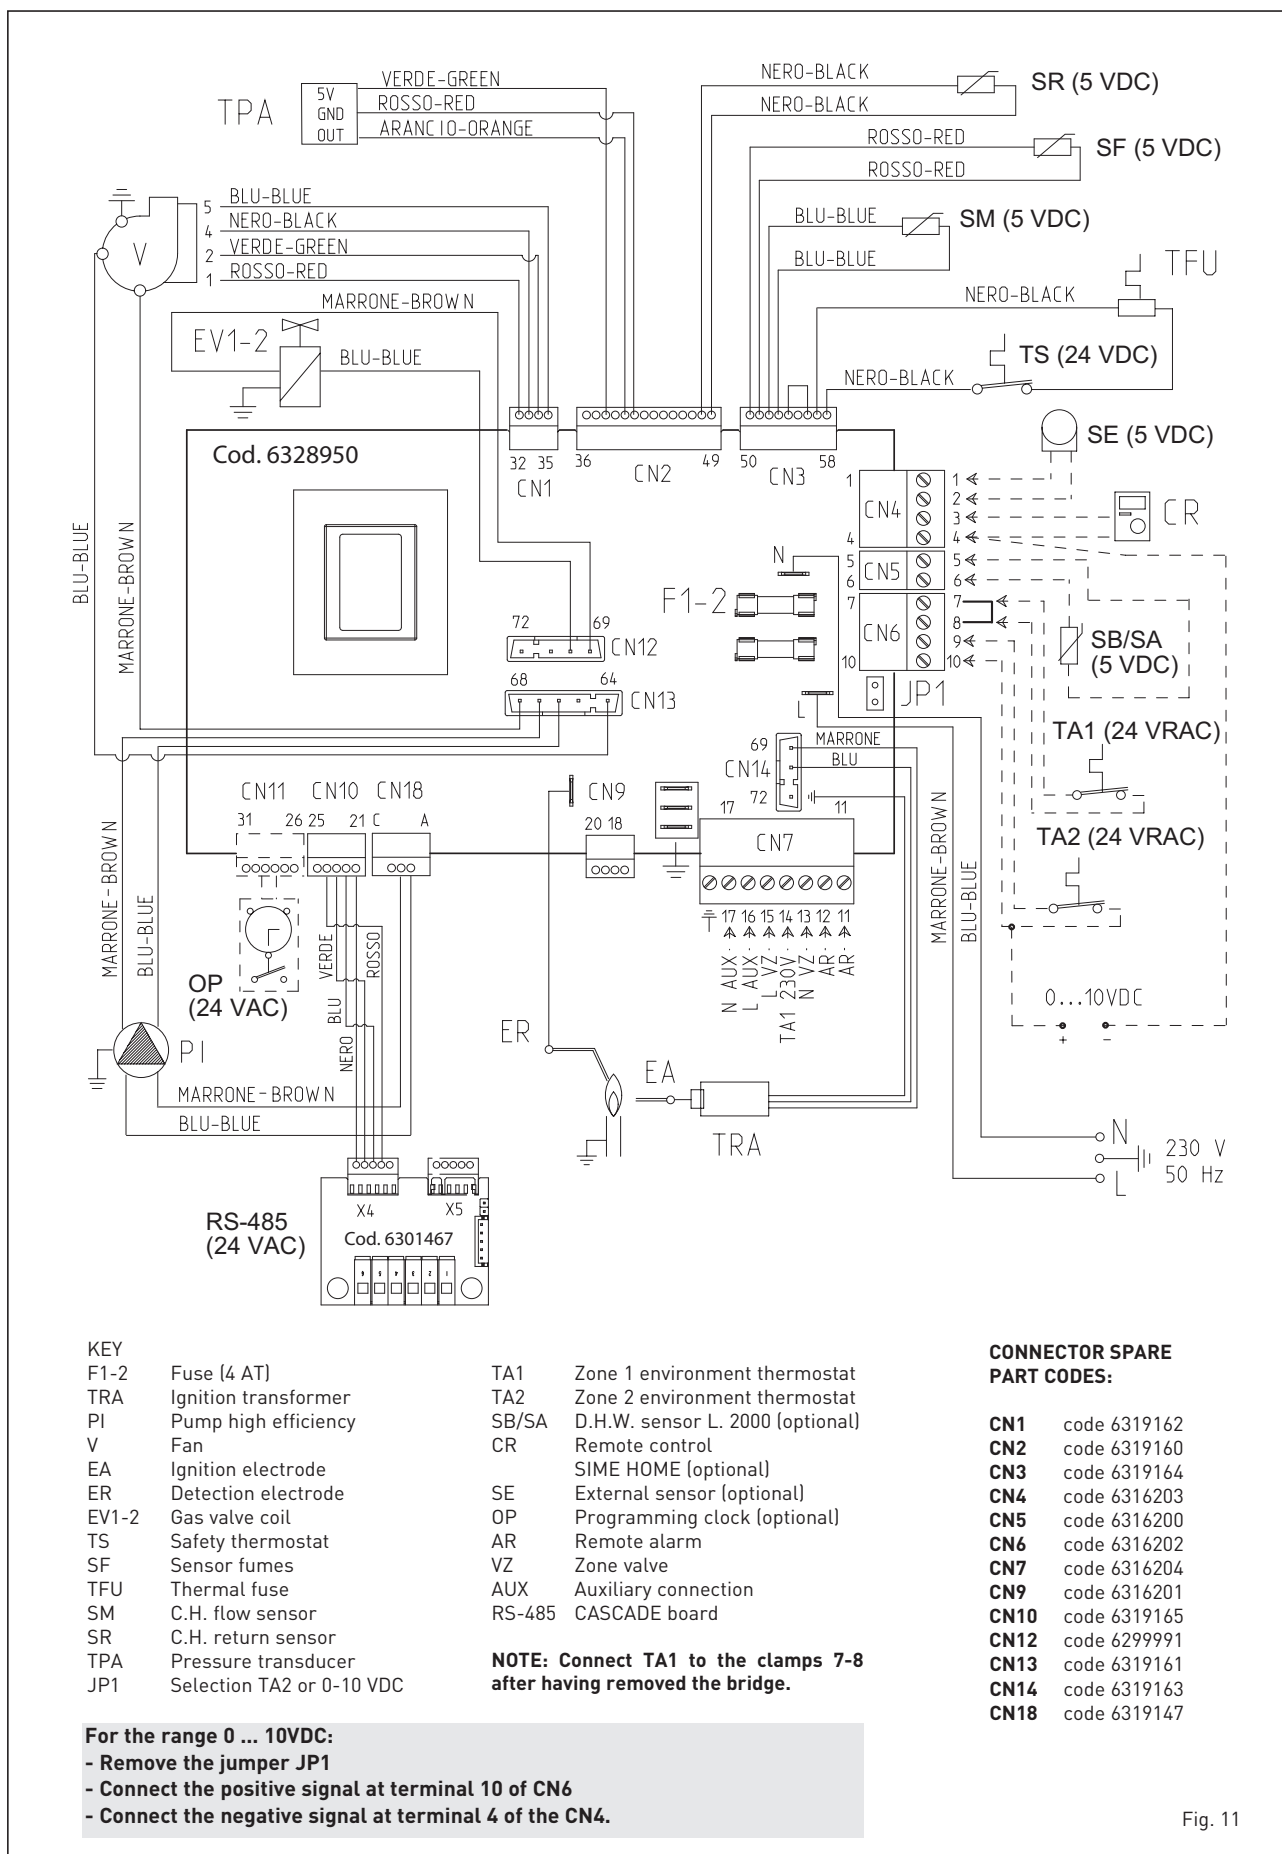

Fig. 11
Connect the chronothermostat as indicated in the boiler electrical diagram (see fig. 11) after having removed the existing bridge.
2.8 BOILER ELECTRICAL (fig. 11)